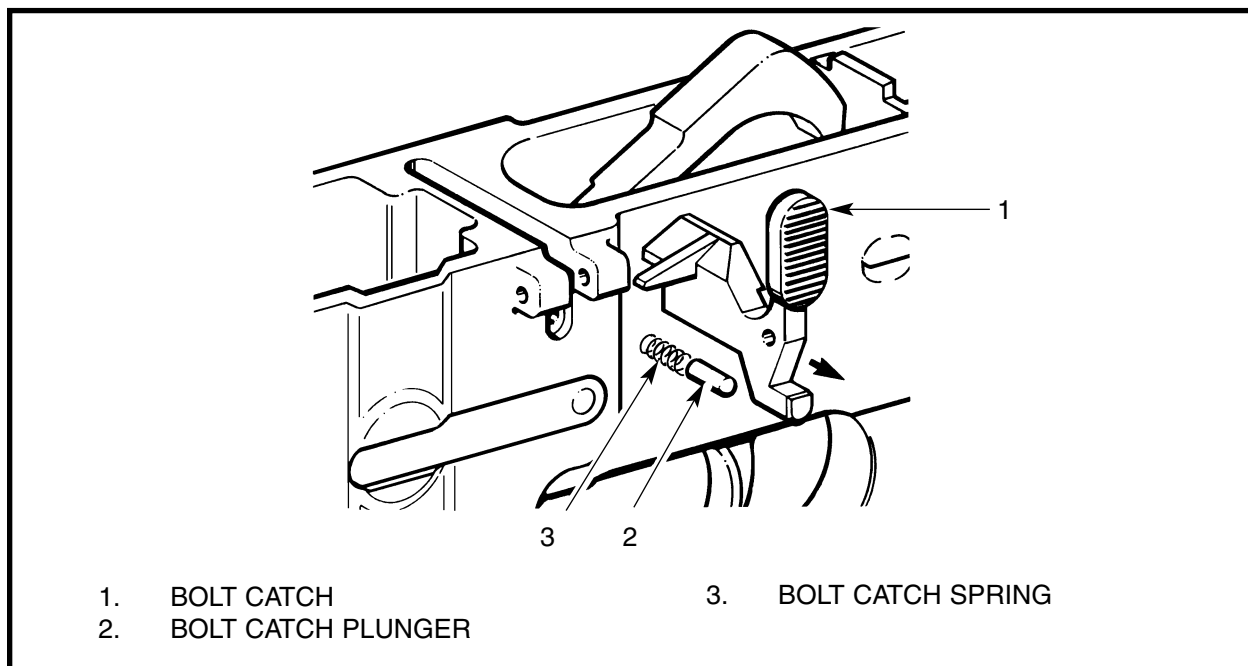

Figure 3-2-41 Removing the Bolt Catch Components
- c. Carefully release pressure and remove the bolt catch (1) bolt catch plunger (2) and the bolt catch spring (3). See Figure 3-2-41.